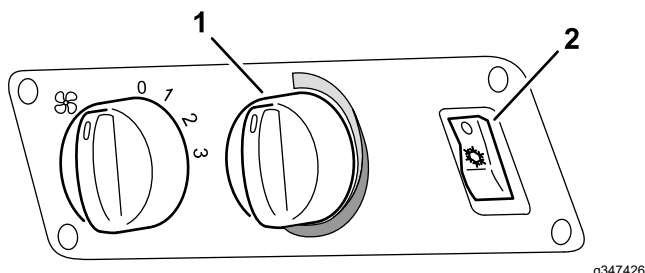

Figure 32
2. Ensure that the parking brake is engaged, start the engine, rotate the temperature control to the cold position, and press the air-conditioner switch to the ON positions (Figure 32).
6. Press the air-conditioner switch (Figure 32) to the OFF position and shut off the engine.